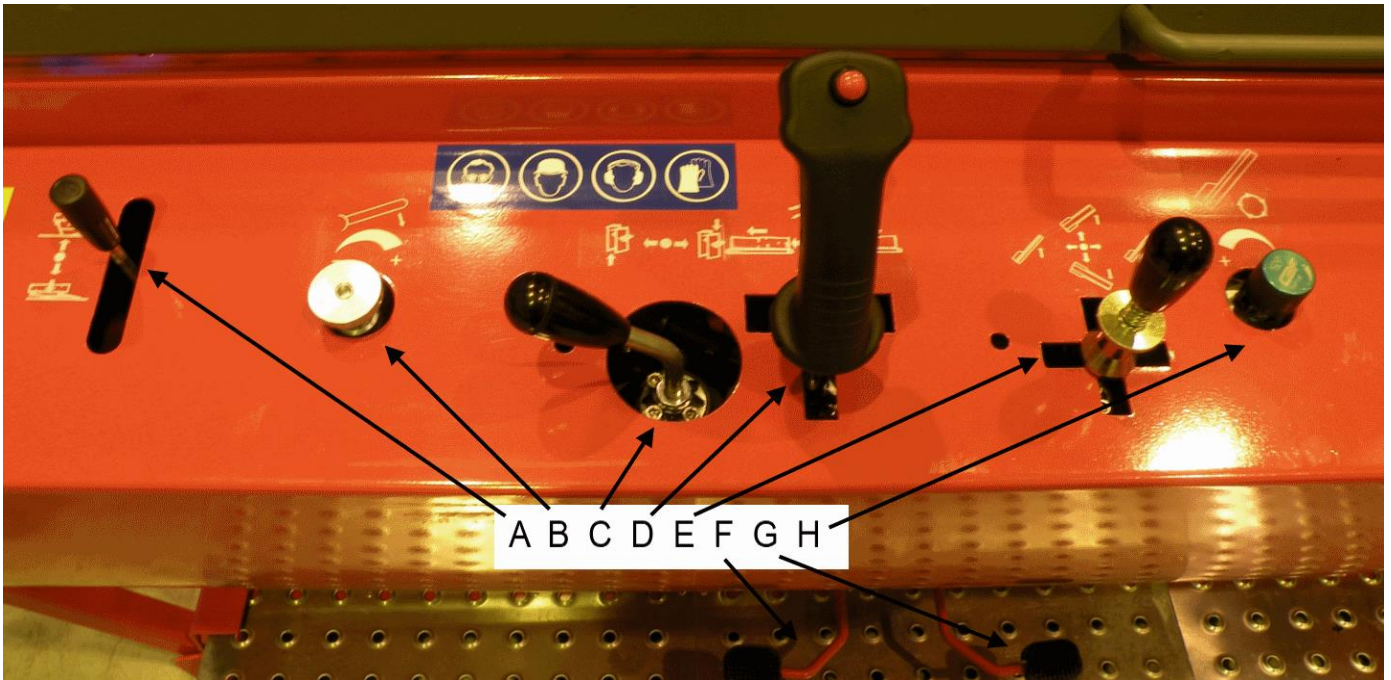
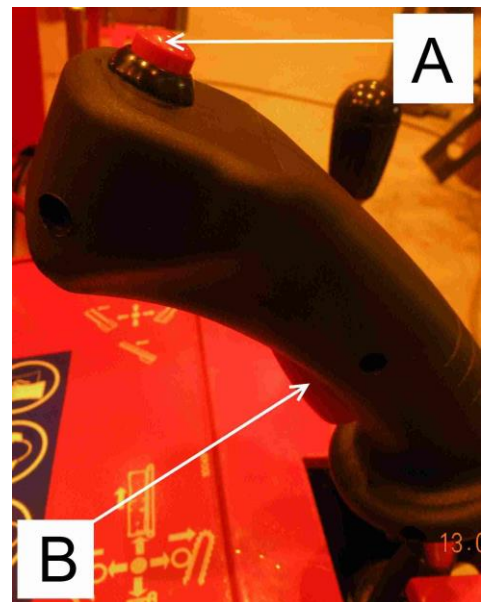

Figure 9. The machine's controls
Figure 10. Joystick
2. Use the control H in Figure 9 of Section 3.2 (anti-clockwise) to make sure that the conveyor is stopped, and start the machine.
3. Keep the lock A open, and move the control E in Figure 9 of Section 3.2 to the right to hydraulically lower the output conveyor to its lowest position.
1. Use the control H in Figure 9 of Section 3.2 to stop the conveyor.
2. Release the lock D holding the upper section of the conveyor in place, and hydraulically lower the conveyor to the lowest position with the operating lever E in Figure 9.
#### Names and functions of the controls in Figure 9
- Wood press: button A in Figure 10
- Blade chain activation: button B in Figure 10
The output conveyor can be controlled with the controls E and H in Figure 9. Use the control E to select the direction and elevation of the conveyor. The control H can be used to freely adjust the running speed of the conveyor. The speed can be decreased until the conveyor stops. Always stop the conveyor when placing it in the operating or transport position.
The splitting blade can be controlled hydraulically by moving the control lever C in Figure 9 up or down. Logs should always be as centred as possible when passing the blade in order to keep the size of the firewood consistent.
6. Start the cutting motion with the joystick D in Figure 9. The cutting motion must be normal when the blade returns up.
- a. Use the joystick D in Figure 9 to perform a few sawing motions without sawing any actual wood.
8. In especially cold weather, the cutting motion can be slow at first. If this is the case, repeat the motion with the splitting pedal (Figure 9, pedal G), until the oil warms up and the speed returns to normal.
9. Ensure that pressing the button A of the joystick in Figure 10 releases the wood press and that pressing the button B of the joystick starts the blade chain.
10. Start the splitting motion with the splitting pedal (Figure 9, pedal G), and stop it by opening the guard of the cutting and splitting section.
11. Ensure that the splitting beam returns to the initial position by holding down the pedal F (Figure 9).
12. Start the splitting motion by briefly pressing the pedal G (Figure 9).
13. Test run the input conveyor's feed and return motion with the joystick D in Figure 9.
14. Test run the lifting motion of the hydraulic wood press by moving the joystick D in Figure 9 forward and, at the same time, pressing the joystick button A (Figure 10).
15. Start the output conveyor by using the control H in Figure 9 to adjust the speed to an appropriate level.
The input conveyor feeds the wood into the processor. Push the joystick D in Figure 9 of Section 3.2 to the upper right to feed wood into the machine. The feed can be cancelled by pushing the joystick to the upper left.
2. Raise the hydraulic wood press by pressing down the button A (Figure 10) of the joystick D (Figure 9) and by pushing the control lever forwards. Use the joystick D to feed wood into the machine with the input conveyor. Moving the joystick to the upper right activates the feed. The optical measuring device stops the conveyor when the desired length has been fed.
3. When the log stops, lock it in place with the wood press. The wood press is activated automatically when you lower the cutting flange with the joystick D in Figure 9 (also in Figure 10).
4. Cut the log by pressing the button B (Figure 10) of the joystick D. The button activates the blade chain. Then, lower the cutting flange by moving the joystick D backwards.
Ensure that the cutting flange's downward motion has not been adjusted (flow valve B in Figure 9 of Section 3.2) to be too fast in proportion to the size of the wood.